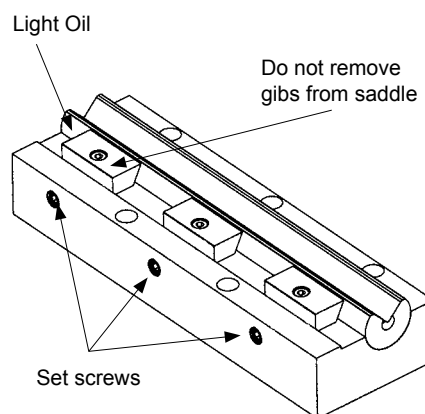

Figure 1
2. Locate set screws at the back of the saddle. Remove using standard hex key (Fig. 1).